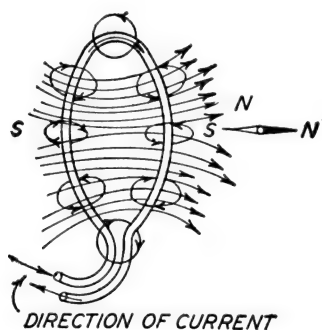

Fig. 3. Magnetic Fields Produced by a Loop of Wire
**Alternating-Current Electromagnets.** Direct current passing around a wire loop sets up a steady field as indicated by the arrows in Fig. 3. If now the current around the loop be reversed, so as to travel around the loop in the opposite direction from that shown,